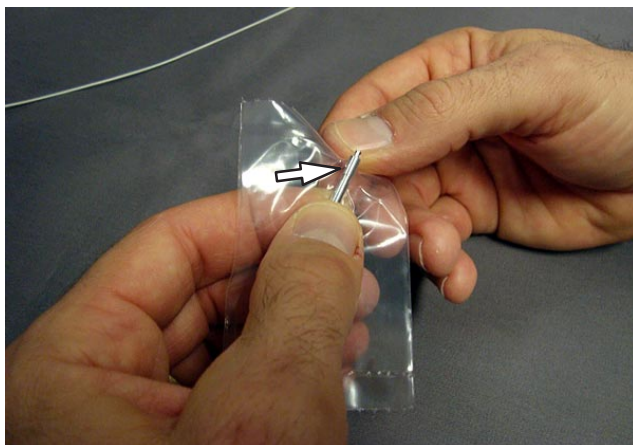

Figure 30
2. Push splice through inner-bag to remove. See Figure 30.